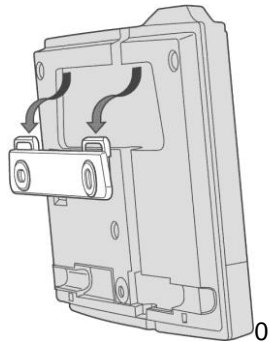

Figure 2: Attach the Unit to the Screw bracket.
4. Assemble the **FW2 MERLIN PRO** on the holder and mark the third drill hole (see Figure 2).